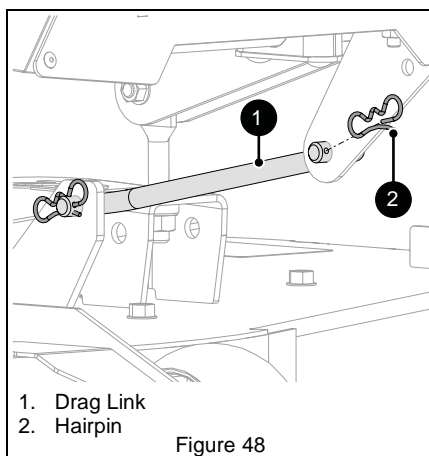

Figure 48
See Figure 48.
7. Reinstall drag link through mower deck bracket and secure with hairpin removed earlier. See Figure 48.